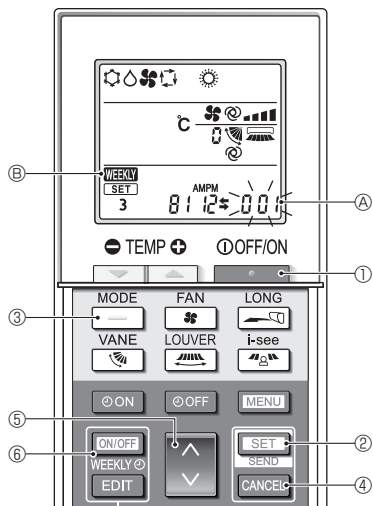

Fig. 4-12
- Press the **MENU** button ②.
4.12.8. How to disable Auto mode operation (Fig. 4-12)
1. Press the **POWER** button ① to stop the air conditioner.
2. Press the **SET** button ② for 5 seconds.
3. Press the **WEEKLY** button ⑥.
4. Completing the settings (Fig. 4-12)
- Press the **SET** button ② for 5 seconds.